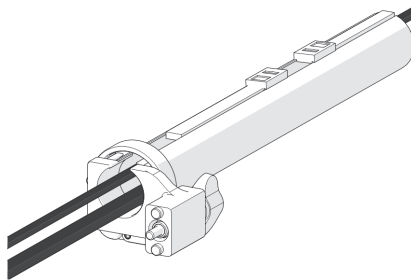

Figure 2-129 Zip opposite end
3. After the cable is placed in the entire length of tube, bring the zipper from the opposite end to meet at any point in the middle (see Figure 2-129 on page 146).